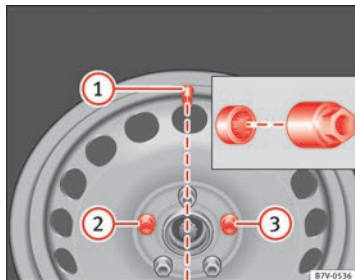

Fig. 184 Changing a wheel: Tyre valve ① and position of anti-theft wheel locking bolt ② or ③
Before mounting the full hubcap, the anti-theft wheel lock must be threaded into position ⇒ Fig. 184 ② or ③. Otherwise it will not be possible to mount the full hubcap.
Press the hubcap against the wheel so that the space for the valve fits over the tyre valve ⇒ Fig. 184 ①. Make sure that the hubcap is correctly fitted all the way around the wheel. ■
For wheels with full hubcap, the anti-theft wheel lock must be threaded into position ⇒ Fig. 184 ② or ③ before mounting the hubcap. Otherwise it will not be possible to mount the full hubcap.
- Screw on the anti-theft locking bolt with the adapter in position ⇒ Fig. 184 ② or ③ clockwise and tighten gently.